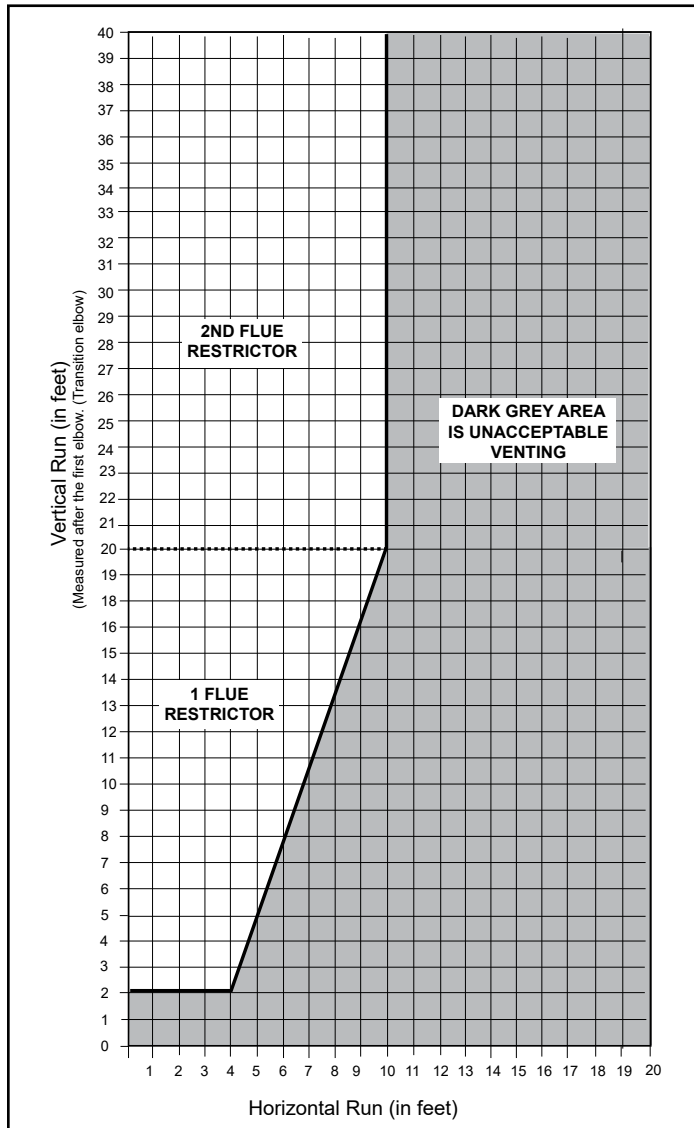

Figure 2.9 - Vertical vent termination window.
- Termination height must conform to roof clearance as specified in Figure 2.9.